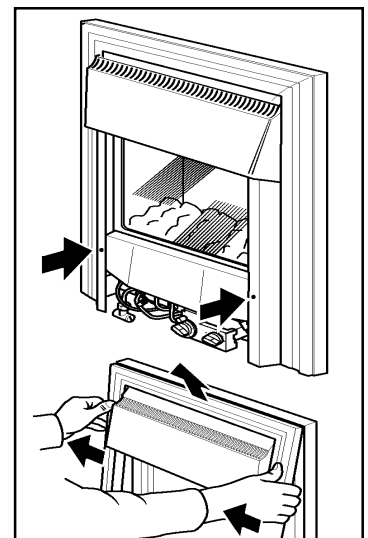

Fig. 18 Front Surround Removal
- Raise the front surround to allow the retaining lugs at the top to clear the slots in the convection box hood and then lift clear. See figure 18.